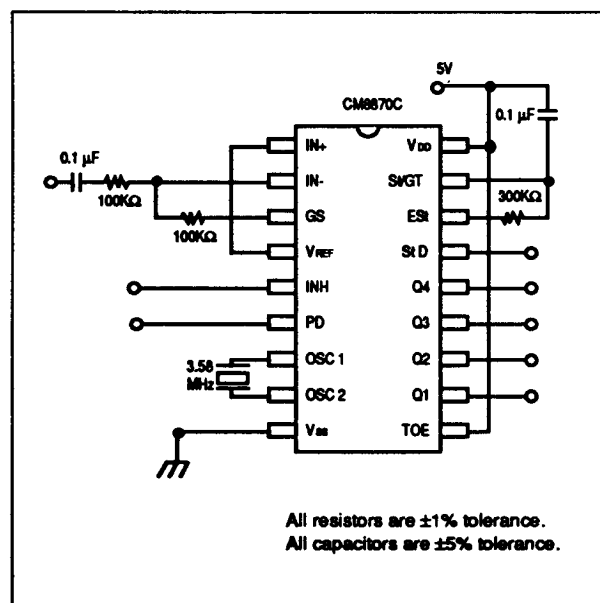

Figure 1. Single Ended Input Configuration
14. Referenced to Figure 1. Input DTMF tone level at -28 dBm.
The value of tDP is a parameter of the device and tREC is the minimum signal duration to be recognized by the receiver. A value for C of 0.1 uF is recommended for most applications, leaving R to be selected by the designer. For example, a suitable value of R for a tREC of 40 milliseconds would be 300K. A typical circuit using this steering configuration is shown in Figure 1. The timing requirements for most telecommunication applications are satisfied with this circuit. Different steering arrangements may be used to select independently the guard-times for tone-present (tGTP) and tone absent (tGTA). This may be necessary to meet system specifications which place both accept and reject limits on both tone duration and interdigit pause.
In a single-ended configuration, the input pins are connected as shown in Figure 1 with the op-amp connected for unity gain and VREF biasing the input at 1/2 VDD. Figure 6 shows the differential configuration, which permits the adjustment of gain with the feedback resistor R5.